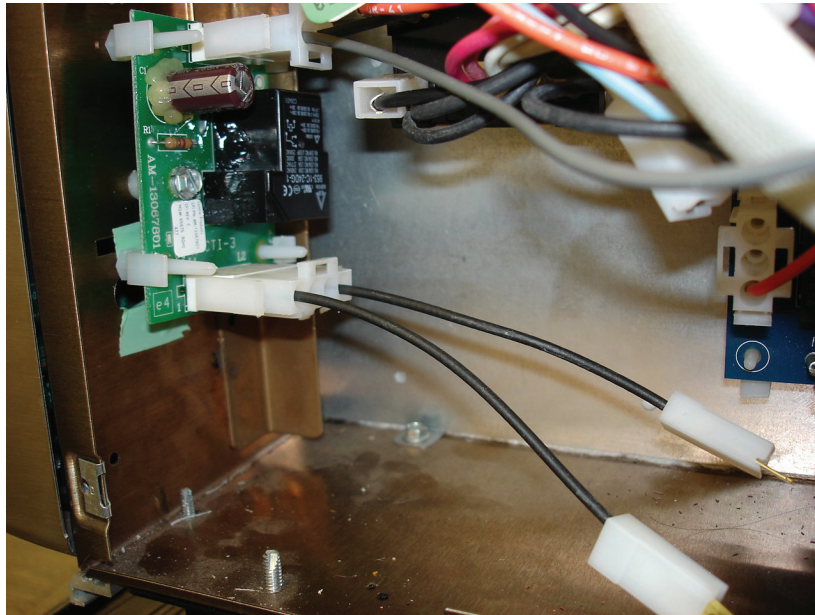

Figure 7
12. Plug 4 pin connector into lower 4 pin connector on monitor relay board (Figure 7).